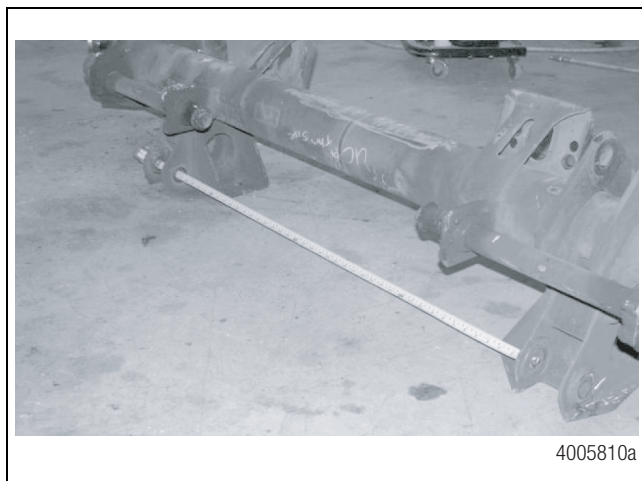
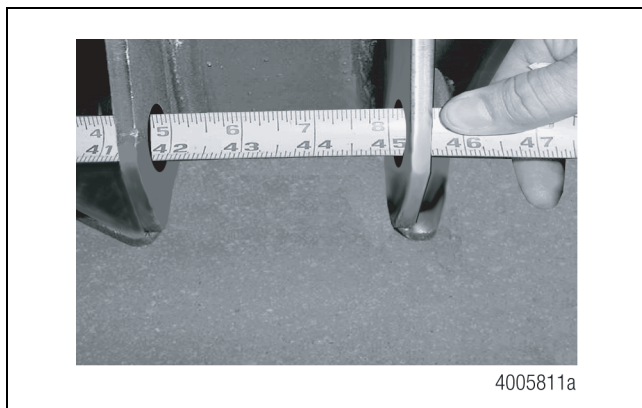

Figure 16
Figure 17
- Use a 3/4-inch wide tape measure to measure through the axle seat upper control arm bolt holes. Set the opposite axle seat at 41-7/8-inches (1064 mm) from the inside of the seat to the inside of the opposite axle seat. Figure 16 and Figure 17.